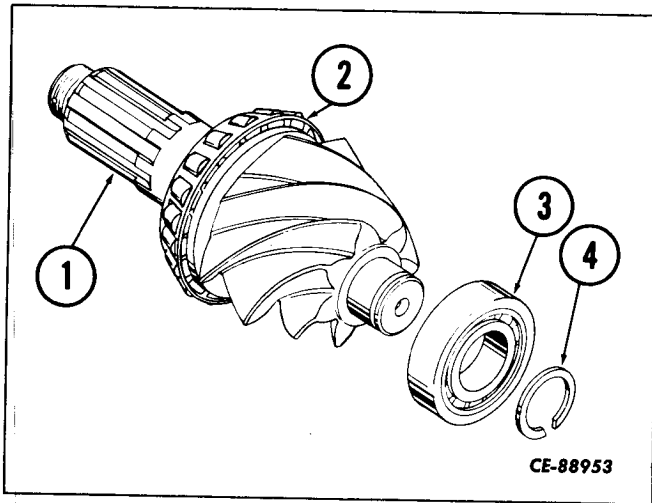

Figure 6-47
Using a suitable adapter press the inner thrust bearing (2, Fig. 6-47) from the pinion shaft (1).